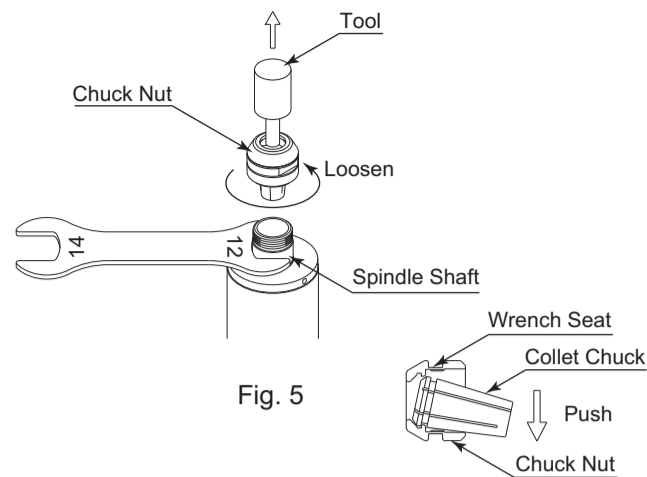

Fig. 5
- Remove the tool according to the section 5. "CHANGING THE TOOL" procedure above and remove chuck nut assembly (Fig. 5).